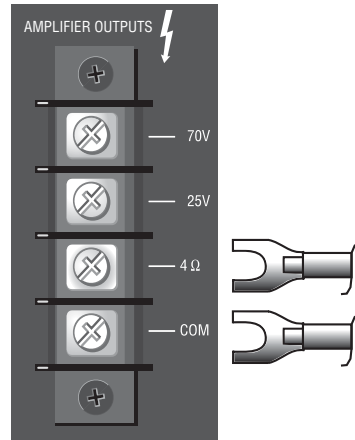

Figure 2.6 Amplifier Output Connections
**Amplifier Output Connections:** Slip the cable lugs under the output screw terminals and tighten (Figure 2.6). Cover the output connections with the supplied non-touch cover.